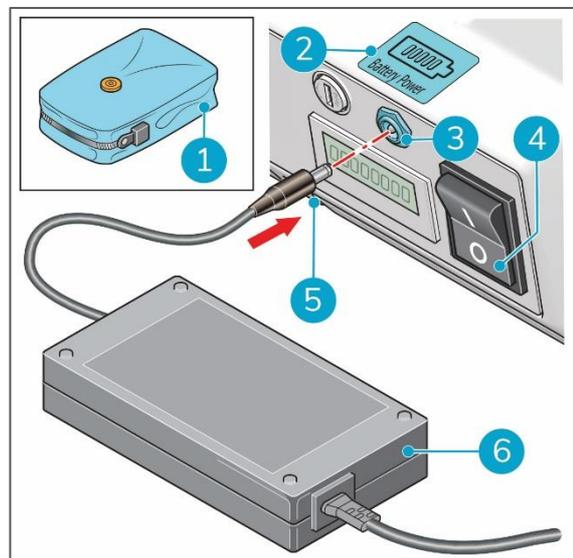

Figure 11
4. Put the four screws back in place, as these also hold the trolley handle (Figure 11, pos 1).